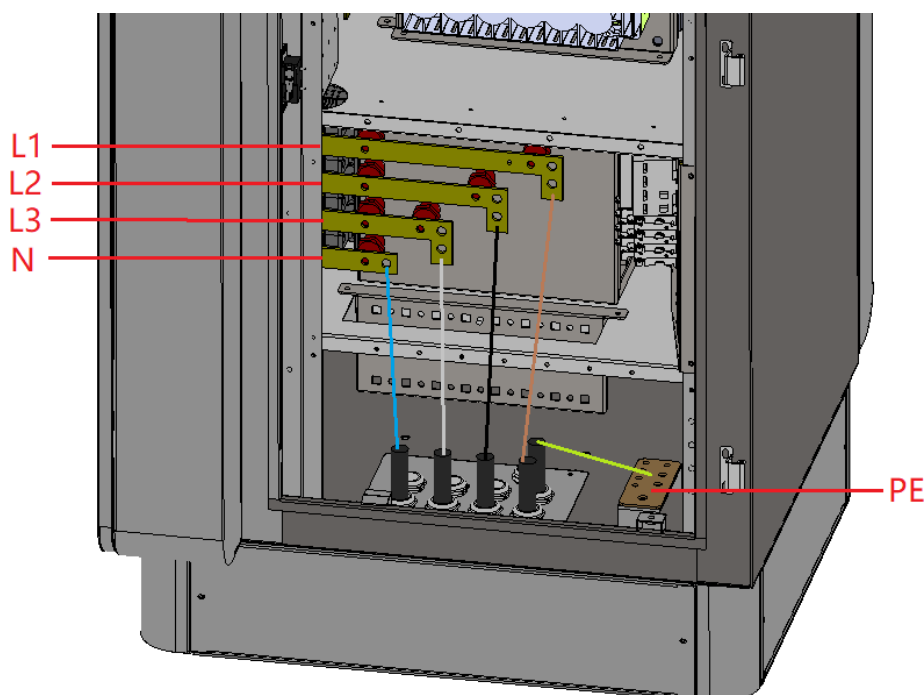

FIG.9 Terminal wiring diagram
- (1). Open the right door of the device and import the power cable from the bottom of the cabinet.
- (2). Make the power cable go through the waterproof gland as shown in Figure 9, reserve the corresponding length, press the copper nose, and connect it to the corresponding terminal, and ensure that the copper nose bolts of the wiring connection are not loose; When wiring, avoid the scratch and damage of the cable insulation sheath, so as to avoid short circuit.